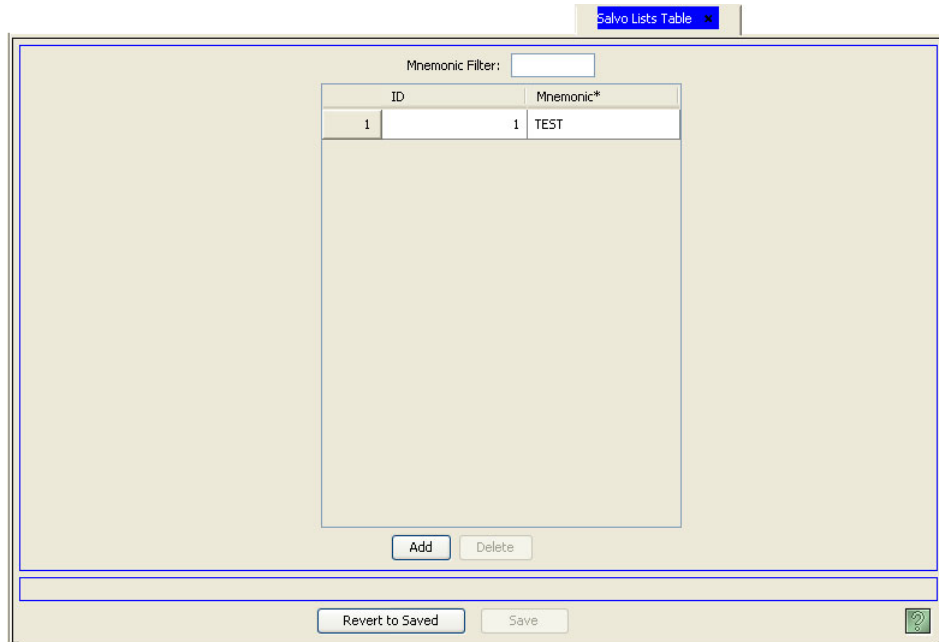

Figure 15-8. Salvo List Table
- 1 From the Navigation area, select the 'Views' pane and then 'Salvo List'. The 'Salvo Lists' table appears, as shown in Figure 15-8.